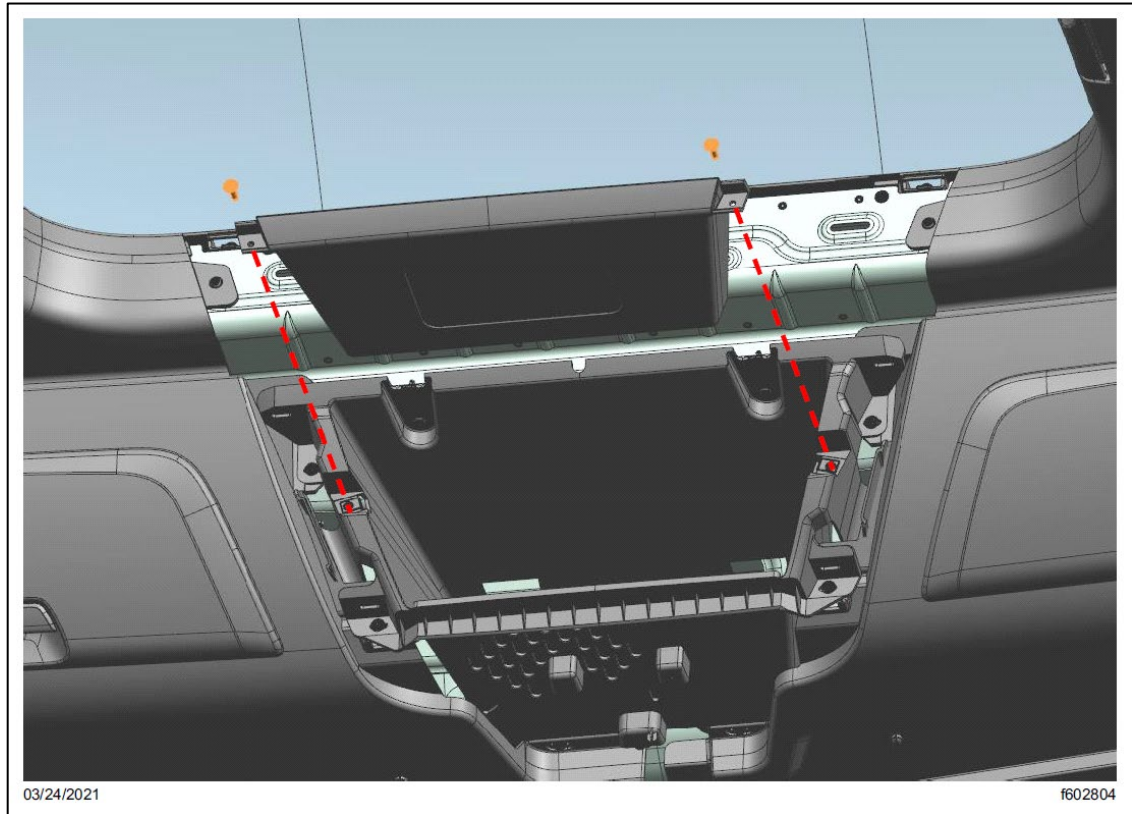

Fig. 46, Sleeper Cab Center Shelf Removal
- 8.3. Remove the two fasteners that attach the center shelf to the center storage bin. Remove the center shelf. See Fig. 46.